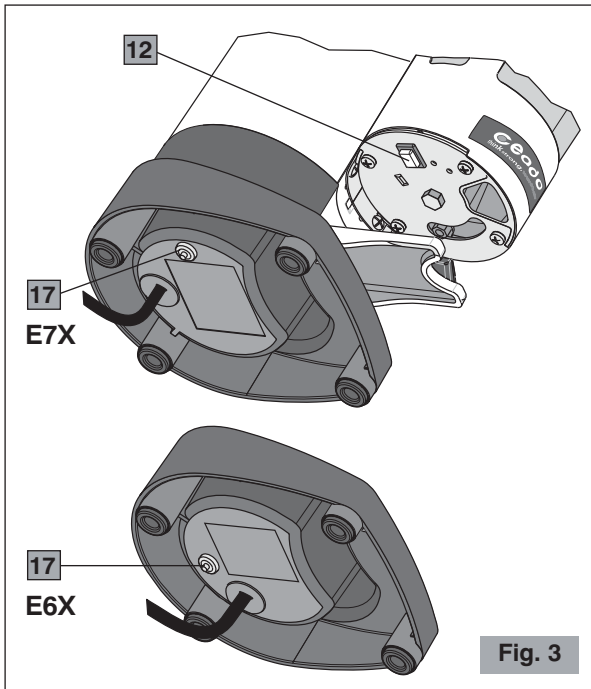
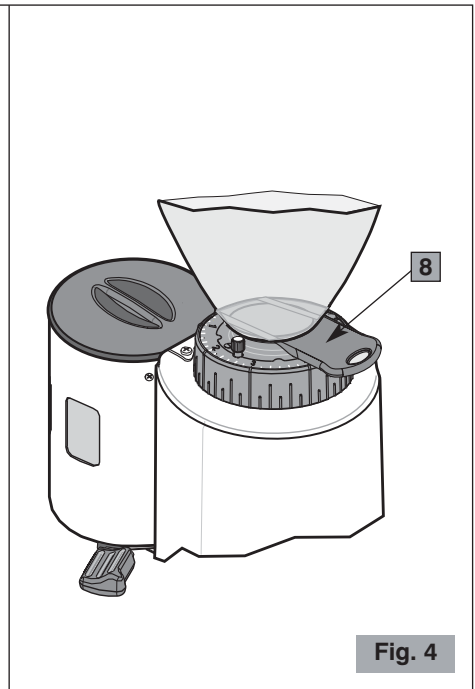

Fig. 3
Fig. 4
Main parts (Fig. 1, Fig. 2, Fig. 3, Fig. 4)
6. Make sure that the bean hopper is correctly positioned and that its shutter is open (8 Fig. 4).